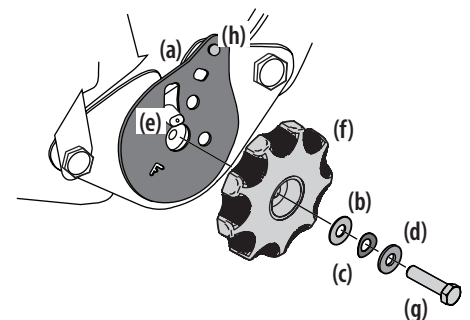

Figure 2-12
7. Remove the seat tilt knob assembly from the bag and install as shown in Figure 2-12.
Note: Be sure to orient the recliner plate (a) and install the plastic washer (b), spring washer (c) and metal washer (d) as shown in Figure 2-12. The plastic washer is on the inside.
8. Slide the recliner bearing plate (a) onto the recliner pin (e). Refer to Figure 2-12.
10. Use a wrench to hand tighten the hex screw (g) until the recliner knob (f) is difficult to turn. Refer to Figure 2-12.
11. Gradually loosen the hex screw (g) until the recliner knob moves freely. Do not loosen the hex screw (g) more than one full turn. Refer to Figure 2-12.
12. Securely install the 1/4" nut onto the clinch-stud (h) and rotate the recliner knob to check the operation of the seat. Refer to Figure 2-12.